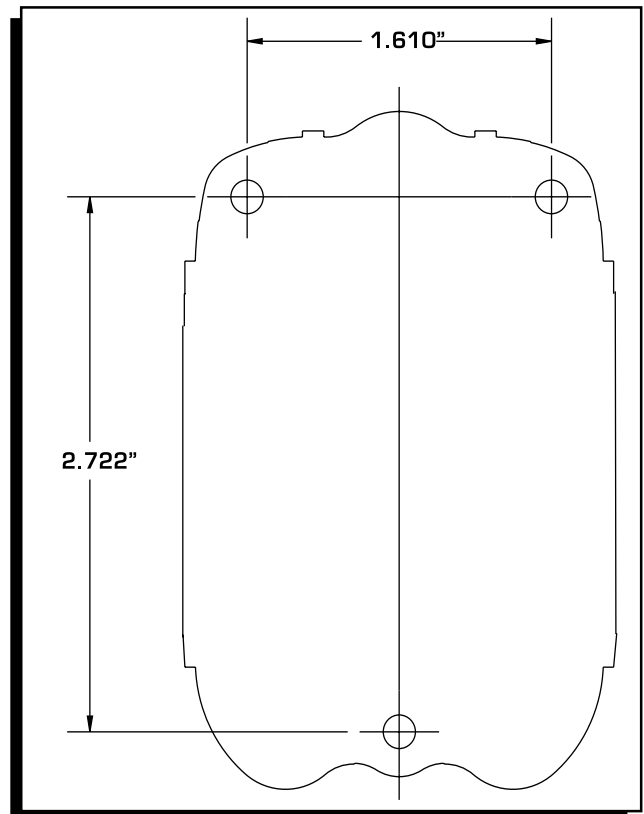

Figure 1 Coil Driver Mounting Template.
3. Use the Coil or Driver as a template and mark the mounting holes. Figure 1 also provides a template to assist in the mounting.